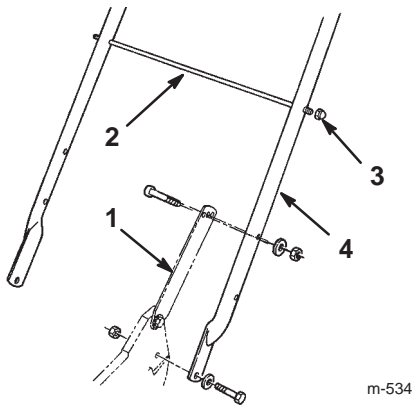

Figure 1
2. Secure the handle latches to the handle with 2 cap screws (5/16–18 x 1–1/2 in.), washers, and nylon insert locknuts (Fig. 1).
3. Slide the bag support rod through the bottom mounting holes in the handle and secure each end with a cap locknut (Fig. 1).